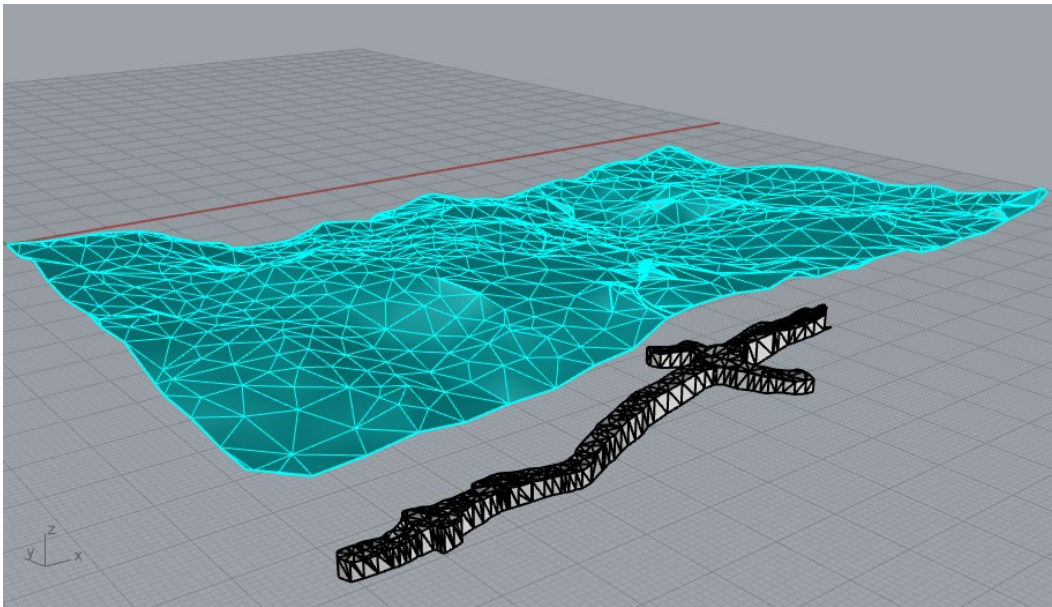

Figure 65: Drift model located near zero coordinates.
6. Maximize *Perspective* viewport and select Shaded view (Figure 65).